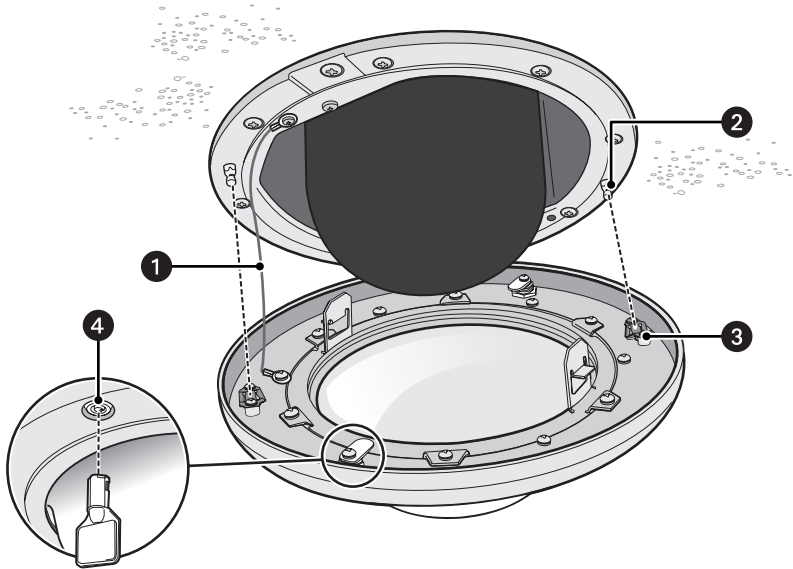

Figure 14. Installing the Heavy-Duty In-Ceiling Lower Dome
1. Snap the clip of the lower trim ring leash into the hole on the lip of the back box (refer to Figure 14).